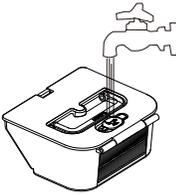

Fig.1
1. As shown in Fig.1, open the flexible plastic inlet, inject clear water, and replace the inlet lid.